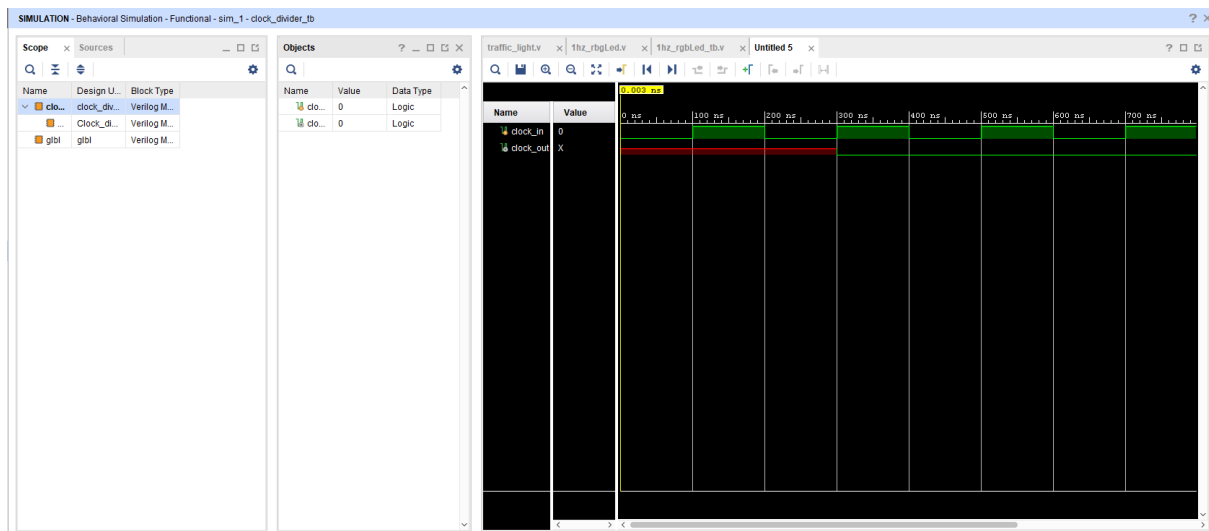

Figure 1: The waveform of test bench for RGB LED from 1Hz
- a. Design a Rising Edge Detection circuit. This circuit will use at least 2 flip-flops. The behavior of the circuit is similar to the waveform in Figure 1. Assume that the in signal's HIGH levels last equal to or longer than a clock cycle.